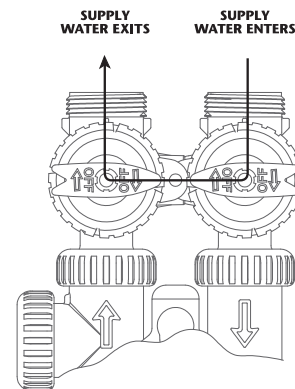

Figure 2
2. **BYPASS POSITION:** The inlet and outlet handles point to the center of the bypass. The system is isolated from the water pressure in the plumbing system. Untreated water is supplied to the building (**Fig. 2**).
- After installation is complete, rotate bypass handles to bypass mode (*see Fig.2 on page 4*).